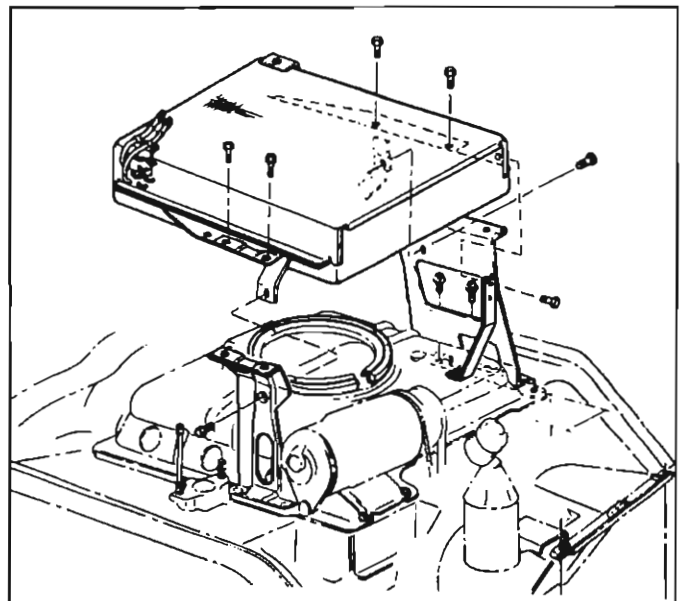

Fig. 11-57—Condenser Removal
4. Remove the three screws on each side of the condenser which attach the condenser and shroud assembly to the mounting brackets (fig. 11-57).